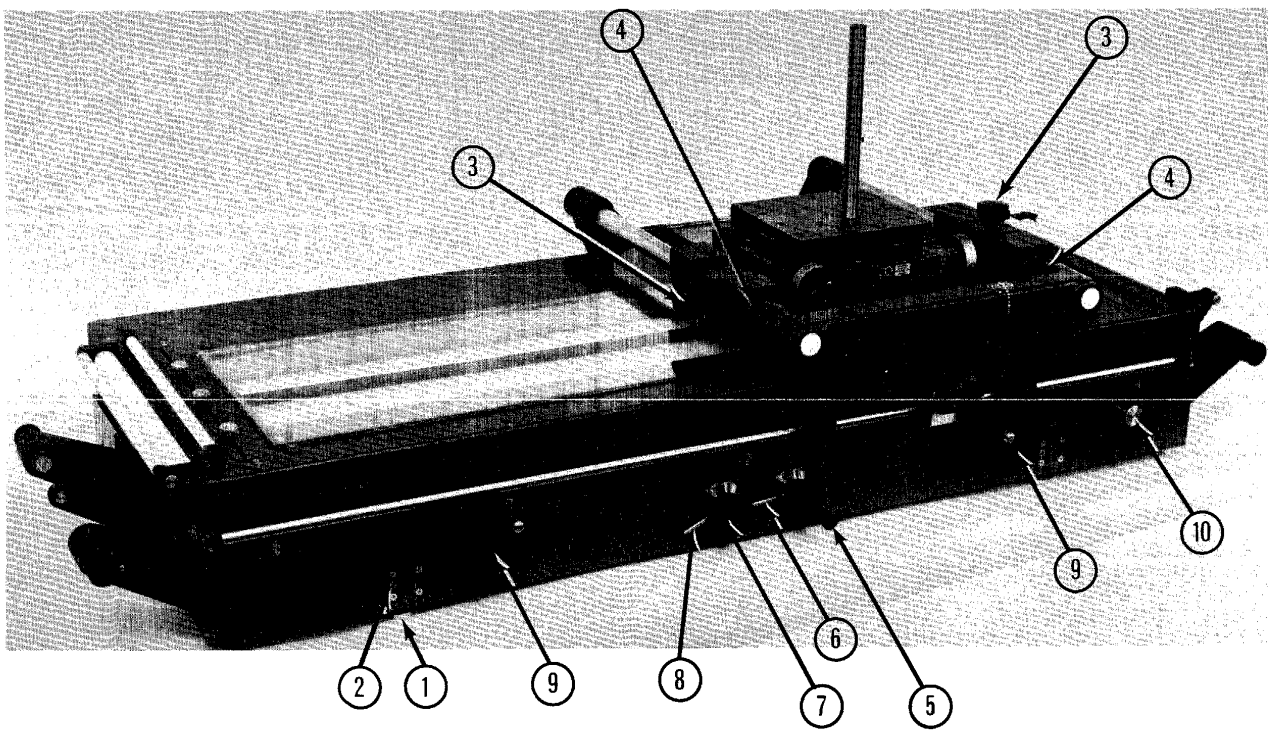
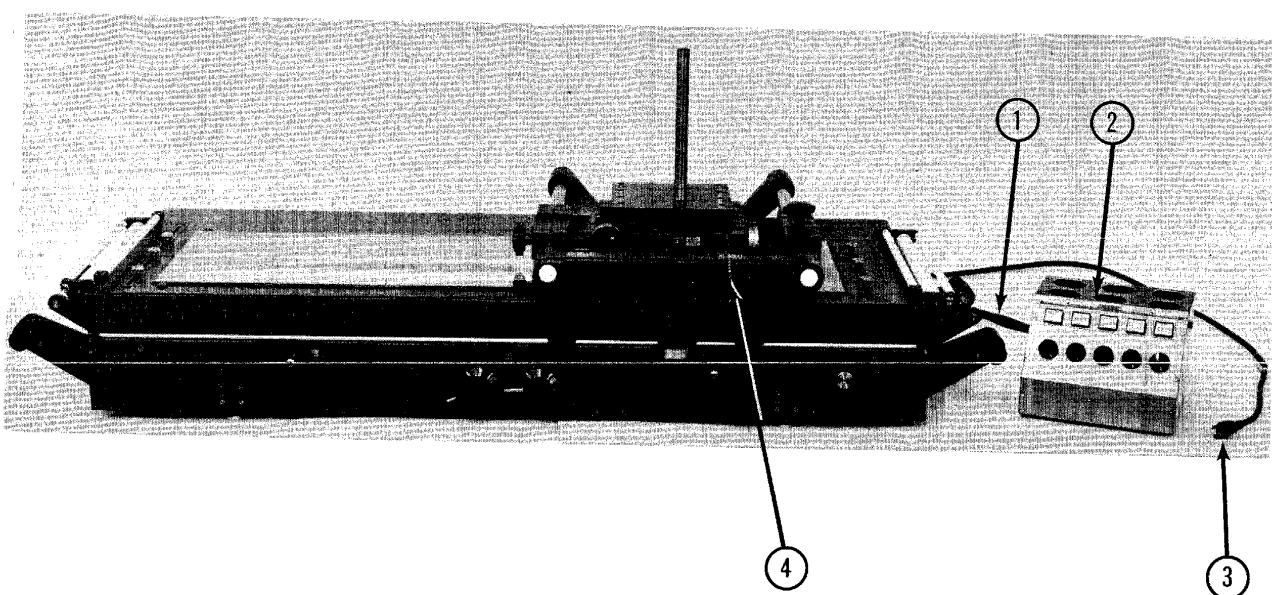
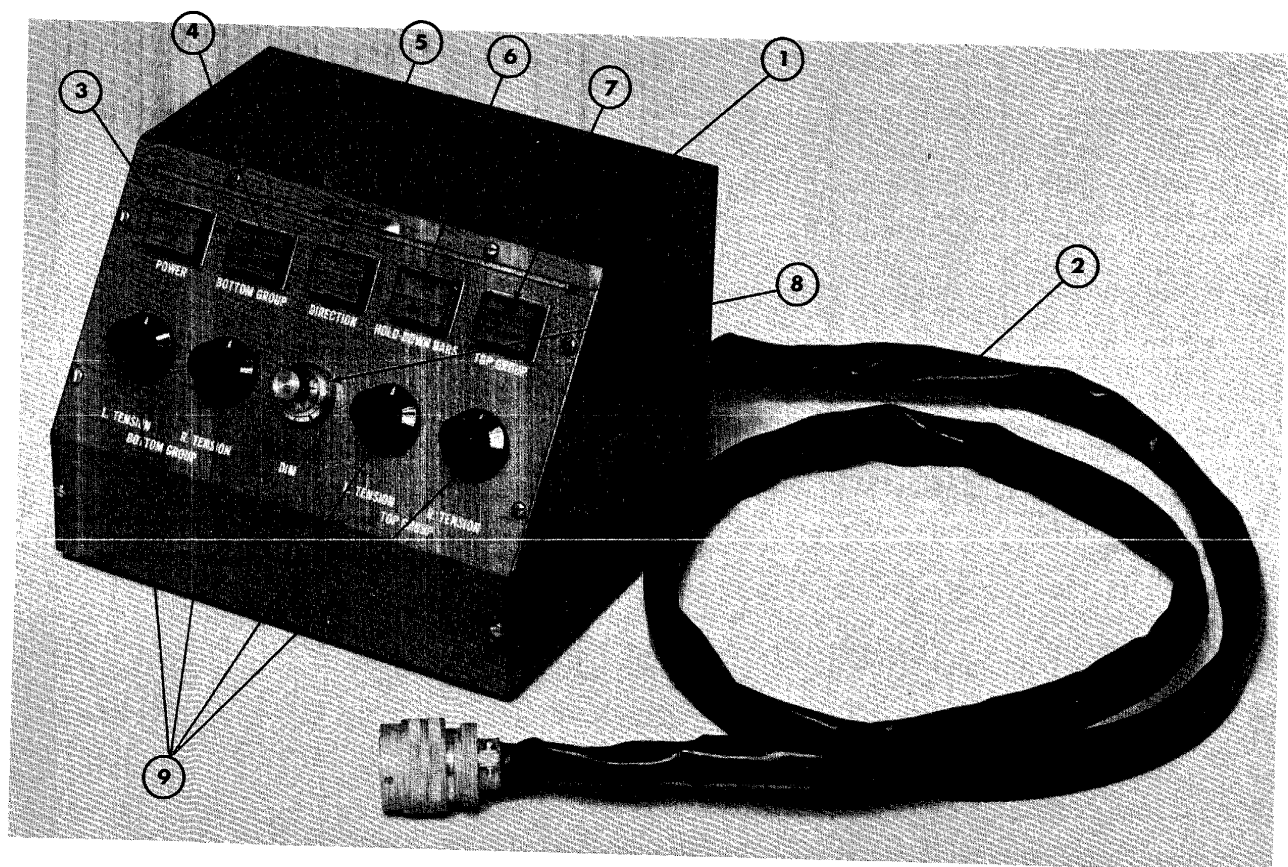
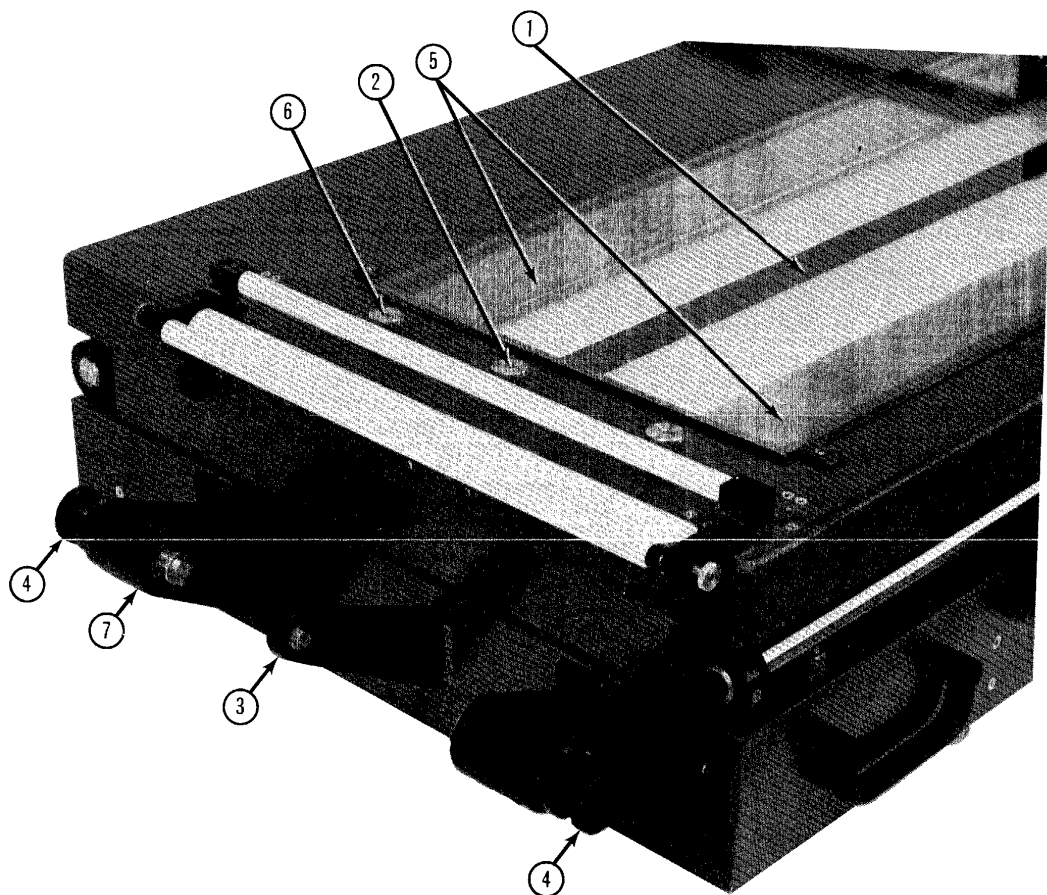

FIG. 1 ASSEMBLY - LIGHT TABLE
FIG. 2 ASSEMBLY - LIGHT TABLE AND CONTROL CONSOLE
FIG. 3 CONTROL CONSOLE AND CABLE
FIG. 5 LIGHT TABLE - DETAILS
The table must be leveled on a rigid support. Leveling will accomplish the freest operation of the microscope carriage; the rigid support will make possible the most accurate results when making a measurement. Leveling of the table is accomplished by adjusting the height of the four leveling pads (#1 Figure 1). Loosen the screw (#2 Figure 1), raise the table to the desired point, and tighten the screw securely.
An increase in height of two inches can be gained by lowering the leveling pads (#1 Figure 1). (See above paragraph for height adjustment.)
The table can be tilted from 0° to 8° with respect to the horizontal by proper adjustment of the leveling pads (#1 Figure 1). For maximum tilt the front leveling pads must be fully retracted and the rear pads fully extended. (For adjustment of the pads, see paragraph II. A. above.)
CAUTION: When the table is tilted, the microscope carriage is free to roll if the Y-Y brakes (#3 Figure 1) are not locked. The microscope carriage will be damaged if it falls free and strikes the stops (#4 Figure 1).
1. Connect the Master Control Panel Cable (#1 Figure 1) to the Master Control Panel (#2 Figure 2) and to the proper connector in the rear of the light table.
2. Connect the 120 volt 60 cycle power cords (#3 Figure 2) to the light table and the power line.
1. Turn the bottom film arm transport plate handle (#5 Figure 1) counterclockwise until the bottom film transport plate strikes the inner stop. Lock the brake (#6 Figure 1).
2. Turn the top film arm transport plate handle (#7 Figure 1) clockwise until the top film arm transport plate strikes the inner stop. Lock the brake (#8 Figure 1).
3. Position the center shade (#1 Figure 5) in the center of the viewing area by first loosening the thumb screw (#2 Figure 5) at each end of the shade and then sliding the shade to the correct position. Tighten the thumb screws.
4. Install center film arms (#3 Figure 5).
5. The film spools may now be loaded by retracting the spring loaded spool holders (#4 Figure 5).
1. Turn the bottom film arm transport plate handle (#5 Figure 1) clockwise until the bottom film transport plate strikes the outer stop. Lock the brake (#6 Figure 1).
2. Turn the top film arm transport plate handle (#7 Figure 1) counterclockwise until the top film arm transport plate strikes the outer stop. Lock the brake (#8 Figure 1).
2. Turn the top film arm transport plate handle (#7 Figure 1) until the inner edge of the film arm (#5 Figure 5) is in line with the 9.5" film marker (#7 Figure 3). Lock the brake (#8 Figure 1).
3. Position the center shade (#1 Figure 1) at the extreme upper edge of the viewing area by loosening the thumb screws (#2 Figure 5) at each end of the shade and sliding the shade to the correct position.
4. Remove the center film arms (#3 Figure 5), if installed.
CAUTION: When Viewing 9.5" Film, the Direction Switch (#5 Figure 3) Must Be In The \Rightarrow (Same Direction).
1. The "Power switch is used to turn the table ON and OFF (#3 Figure 3).
2. The "Bottom Group" switch controls the bottom film transporting system (#4 Figure 3).
3. The "Direction" switch controls and indicates the mode of film travel (#5 Figure 3).
4. The "Hold-Down Bars" switch controls the film bars (#6 Figure 3).
5. The "Top Group" switch controls the top film transporting system (#7 Figure 3).
The Light Table is equipped with shades. The function of the shades is to mask out the area of the light source not being used. When film is viewed which does not cover the entire viewing surface, the shades (#5 Figure 5) may be drawn by loosening the thumb screws (#6 Figure 5) and sliding the shades to the desired position.
When two rolls of film are viewed, the center strip between the two rolls of film may be shaded by using the center shade (#1 Figure 5). This can be done by loosening the thumb screws (#2 Figure 5) and sliding the shade to the desired position and then tightening the thumb screws.
The film drive mechanism is hand operated by means of either of two cranks (#9 Figure 1) on the front side.
Although the film drive mechanism is hand operated, the clutch-brake units operate only when power is applied to the desired unit. A clockwise rotation of one of the front hand wheels (#9 Figure 1) will transport film from left to right when operating with the "DIRECTION" switch in the \rightarrow same mode. When the "DIRECTION" switch is changed \leftarrow , the direction of the top roll of film changes as indicated by the direction markers on the switch. The complete film direction can be reversed by reversing the direction of the hand crank to counterclockwise.
A two-speed mechanical gear shift (#10 Figure 1) is provided to switch the film transporting mechanism from low speed to high speed. When the gear shift rod (#10 Figure 1) is "pulled out," the film drive mechanism is in the "fast" mode.